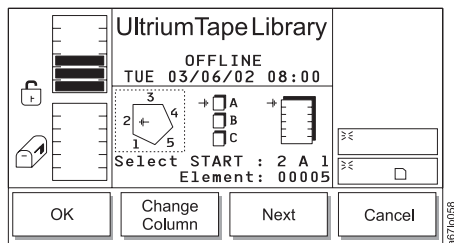

Figure 4-73. Scan Barcode Dialog
3. Press the button below the **Scan Barcode** softkey. The Scan Barcode Dialog displays (see Figure 4-73) with a message area that shows three icons:
The position of the arrow in each of the three icons identifies the storage slot's physical address. For example, arrows that point to a column 2, magazine A, and storage slot 1 indicate a physical address of 2 A 1. In the Scan Barcode Dialog, a slot's physical address displays below the right icon (see Figure 4-73).